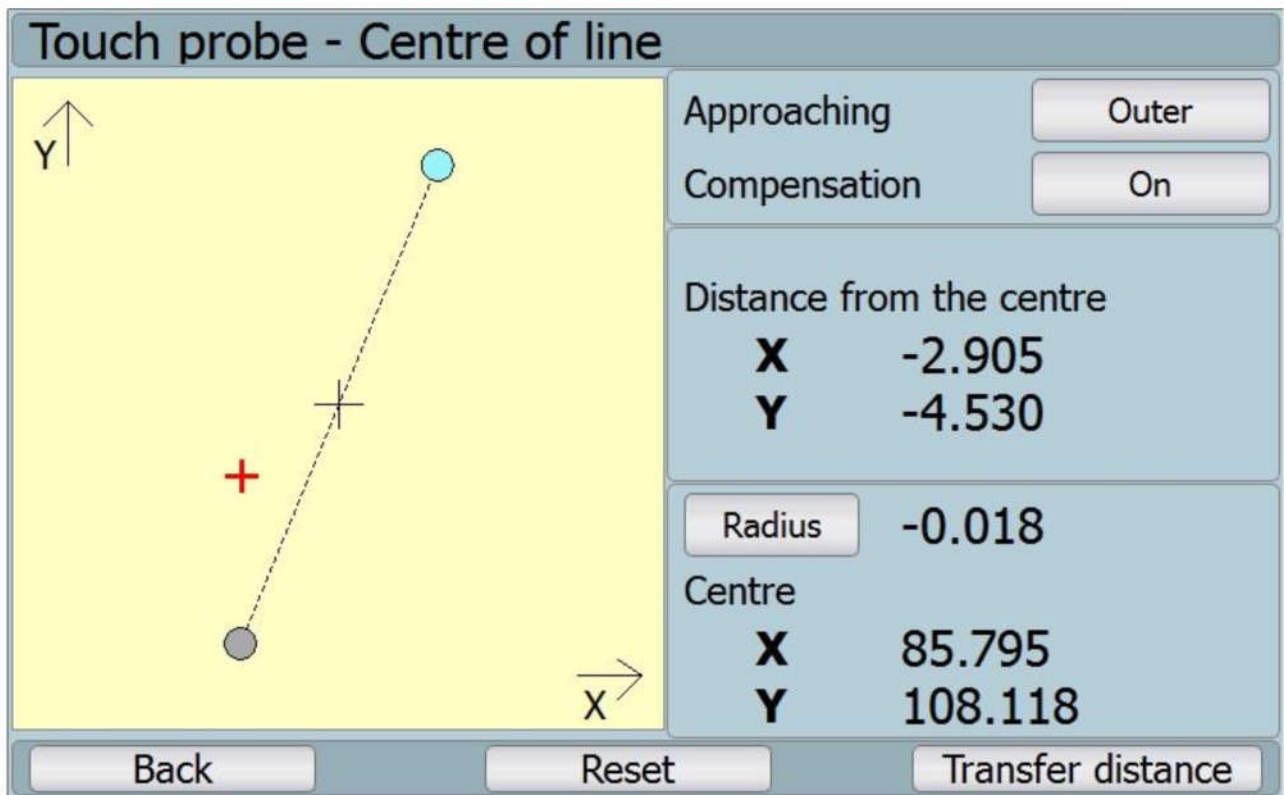

Fig. 45: Touch probe – abscissa centre – found centre
- ⑩ After reaching the second required coordinate with the probe and pressing button for the confirmation, the second point is saved and the found abscissa is drawn with the centre (see fig. 45: Touch probe – abscissa centre – found centre).
- ⑩ It displays the radius (diameter) value of abscissa, the coordinates of the found centre, and it displays data on the line centre distance from the touch probe coordinates.
- ⑩ The diameter value can be switched with buttons „Polomer/Prumer“ (diameter/ radius) for the defined abscissa.
- ⑩ Button „Vnejsi/Vnitri“ (external/ internal) is used for the diameter value treatment according to the way we moved the touch probe on individual line coordinates. They can be from external or internal side.
- ⑩ Button „Zapnuto/Vypnuto“ (on/off) for the compensation edits values of the centre coordinates as per the defined compensation received during the calibration of the touch probe on the circle (see chapter **Chyba! Záložka není definována.**).
- ⑩ Button „Reset“ sets everything into the initial setting.
- ⑩ Button „Prenest stred“ (transfer centre) transfers the coordinates of the defined axis centre.